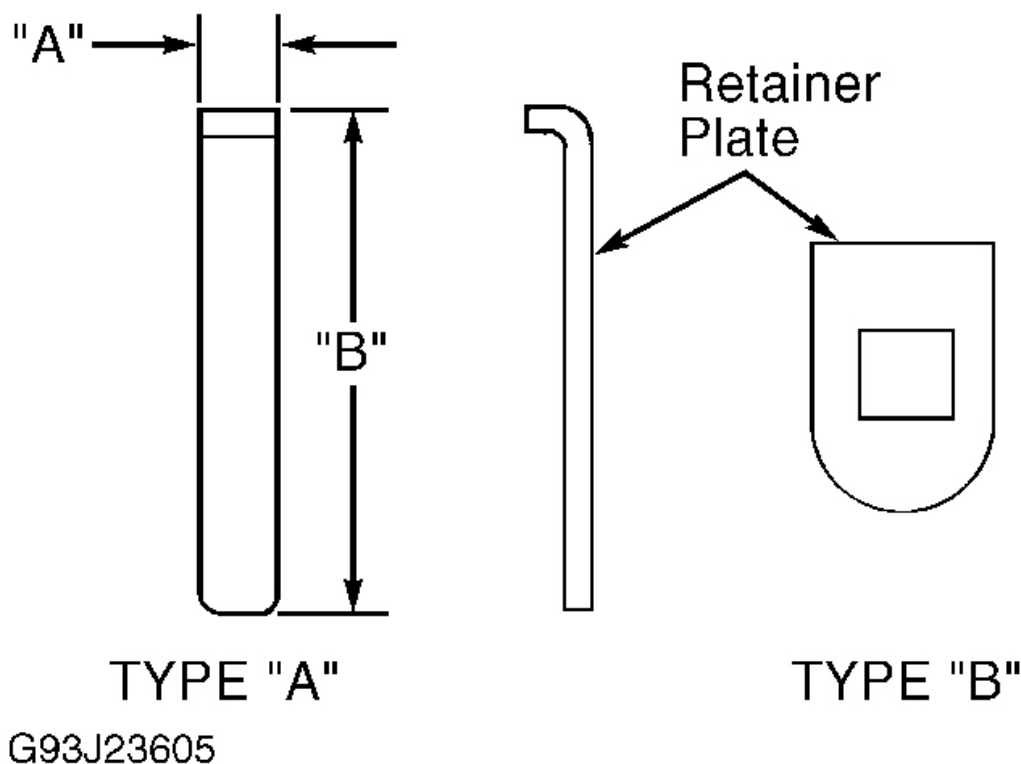

Fig. 26: Measuring Retainer Plate Dimensions
(2) Length "A" for all valves is .236" (6.0 mm). All valves use type "A" retainer plate. See **Fig. 26**.
(2) Shift Valve "B" not applicable. All valves use type "A" retainer plate except shift valve "B" (Type "B"). See **Fig. 26**.